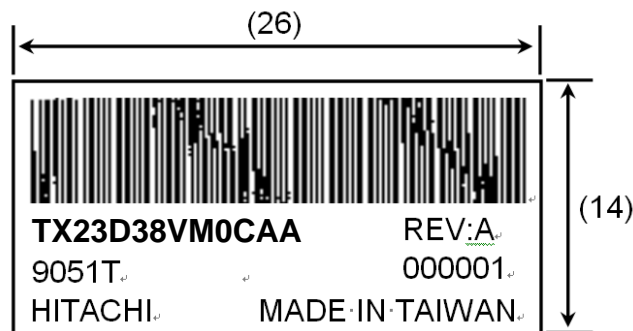

Fig 13.1
1) The lot mark is showing in Fig.13.1. First 4 digits are used to represent production lot, T represented made in Taiwan, and the last 6 digits are the serial number.
4) The location of the lot mark is on the back of the display shown in Fig. 13.1.